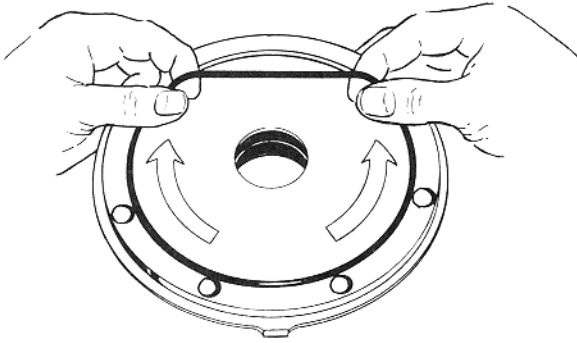

Figure 5 - Head O-Ring Installation
The head O-ring (72) is slightly smaller in diameter than the O-ring groove in the head. Before installation, clean the O-ring groove. To install, lay the bottom part of the O-ring into the bottom part of the groove, and slide the thumbs over the O-ring in opposite directions while stretching it ahead with the fingers, as shown in Figure 5.